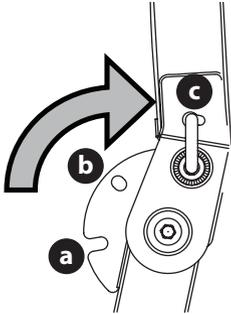

Figure 5
2. Move the ROPS into the desired position (Figure 5).
NOTE: The three positions are TRANSPORT (a) position, TRANSPORT WITH BAGGER (b) position, and into the OPERATION (c) position (Figure 5).